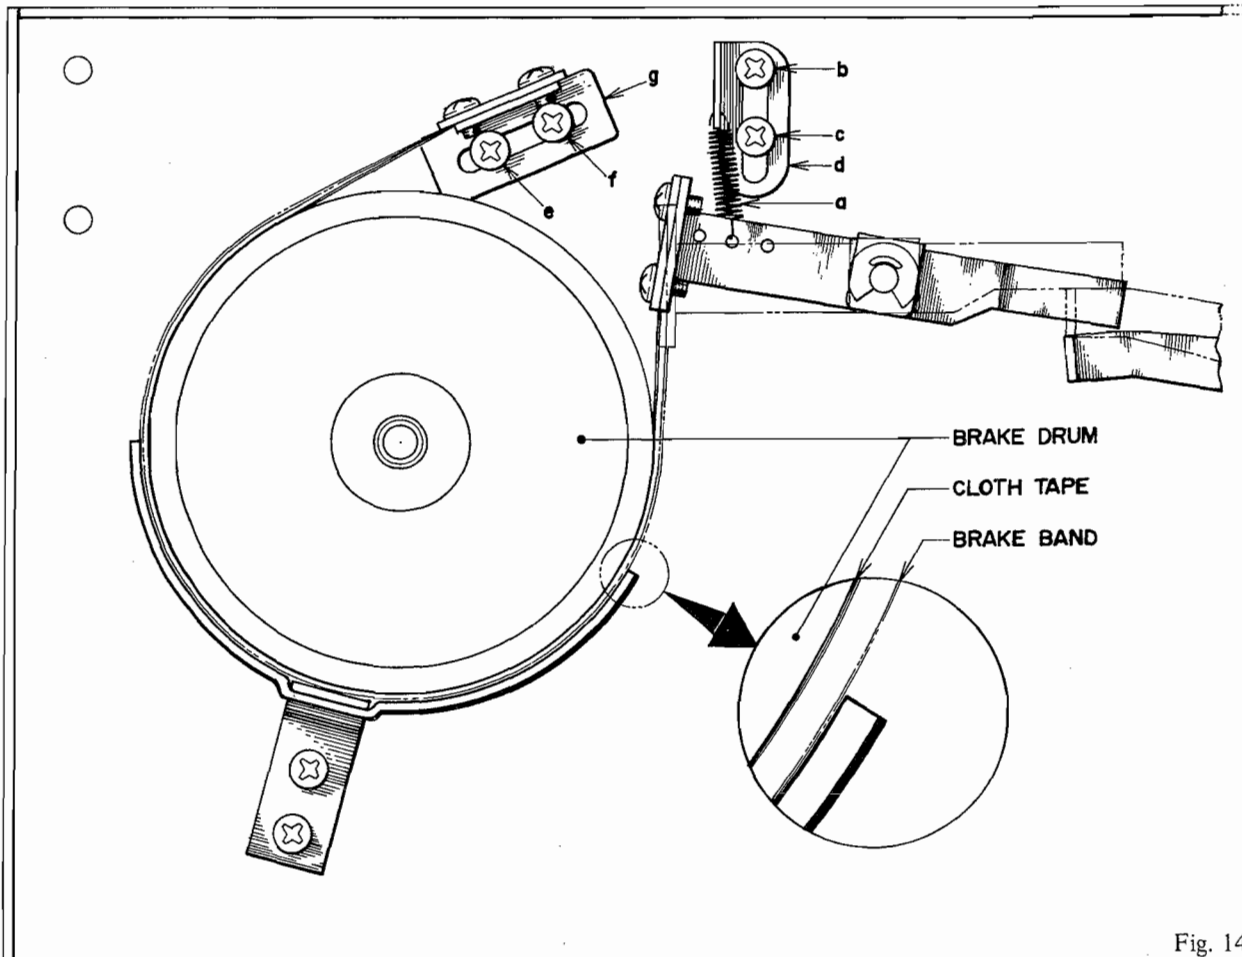

Fig. 14
- 2) Brake tension adjustment can be made as follows: (Refer to Fig. 14)
- d) Only the left side is shown in Fig. 14, but the right side must be adjusted in the same way.
NOTE: In making brake tension adjustment, at all modes except stop mode, confirm that the brake band completely separates from the cloth tape on the brake drum. (Refer to Fig. 14)